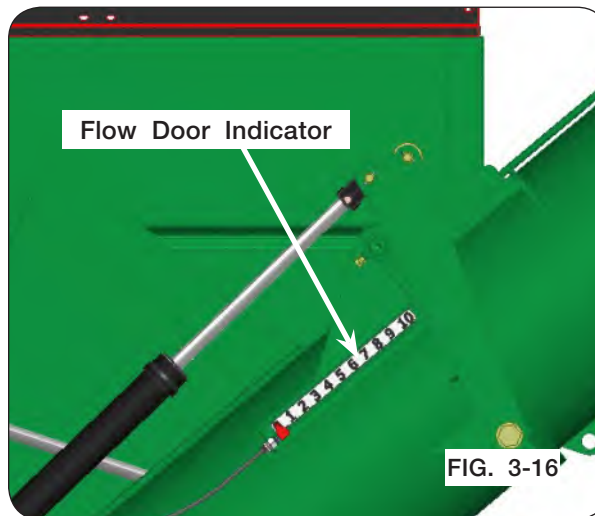

FIG. 3-16
4. Open flow control door to desired unloading rate. Numbers on the auger tube provide a point of reference for operator convenience. (FIG. 3-16)